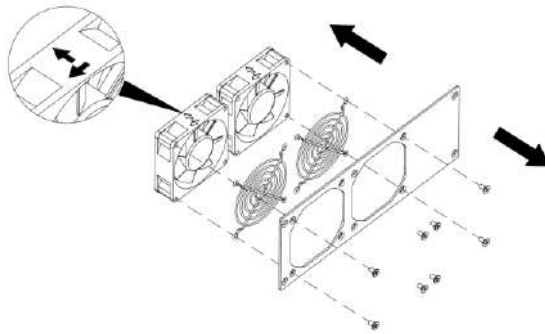

Figure 5.3 Replace fans
- (8) Disassemble the damaged inverter fan as shown in Fig 5.3, then install the new fan back to its original position, and connect the fan power and control cable.